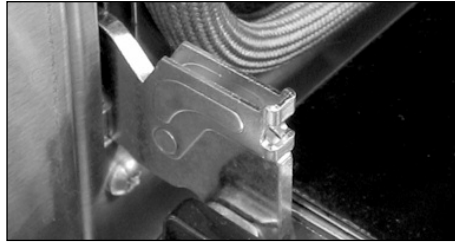

Fig. 07
2. Unlock the door hinges by rotating the lock forward (Fig. 07).